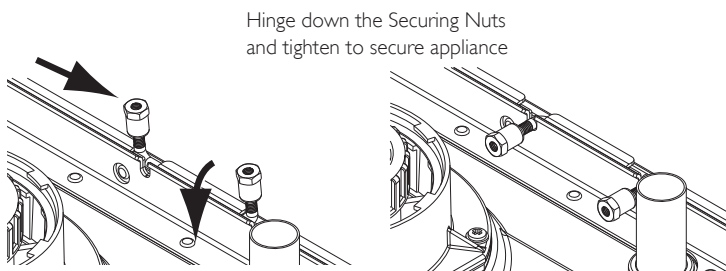

Fig. 29
3. Tighten the two securing nuts on the wall plate and complete the securing of the appliance by replacing the two screws previously removed. (Figs. 29 & 30).